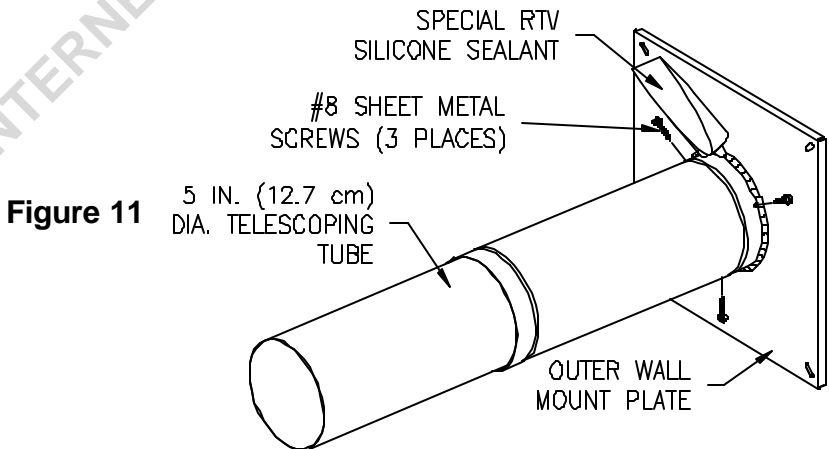

Figure 11
8. Extend the five (5) inch (12.7 cm) diameter telescopic tube to its maximum length. Place the large end of the five (5) inch (12.7 cm) diameter telescopic tube over the collar on the outer wall mount plate. Drill three (3) 1/8 inch diameter holes, 120° apart, through the five (5) inch (12.7 cm) diameter telescopic tube into the collar on the outer wall mount plate. Fasten with three (3) #8 sheet metal screws (supplied). Using the supplied special RTV silicone sealant, apply a sufficient amount to seal the joint (See Figure 11).